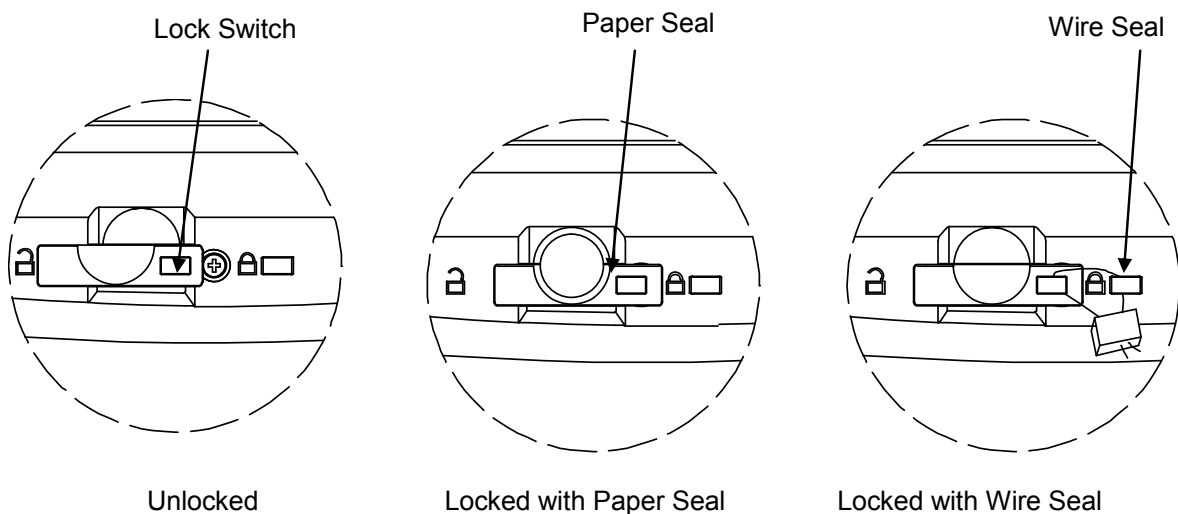

Figure 1-3. Sealing
3. Set the switch to Locked. See figure 1-3.